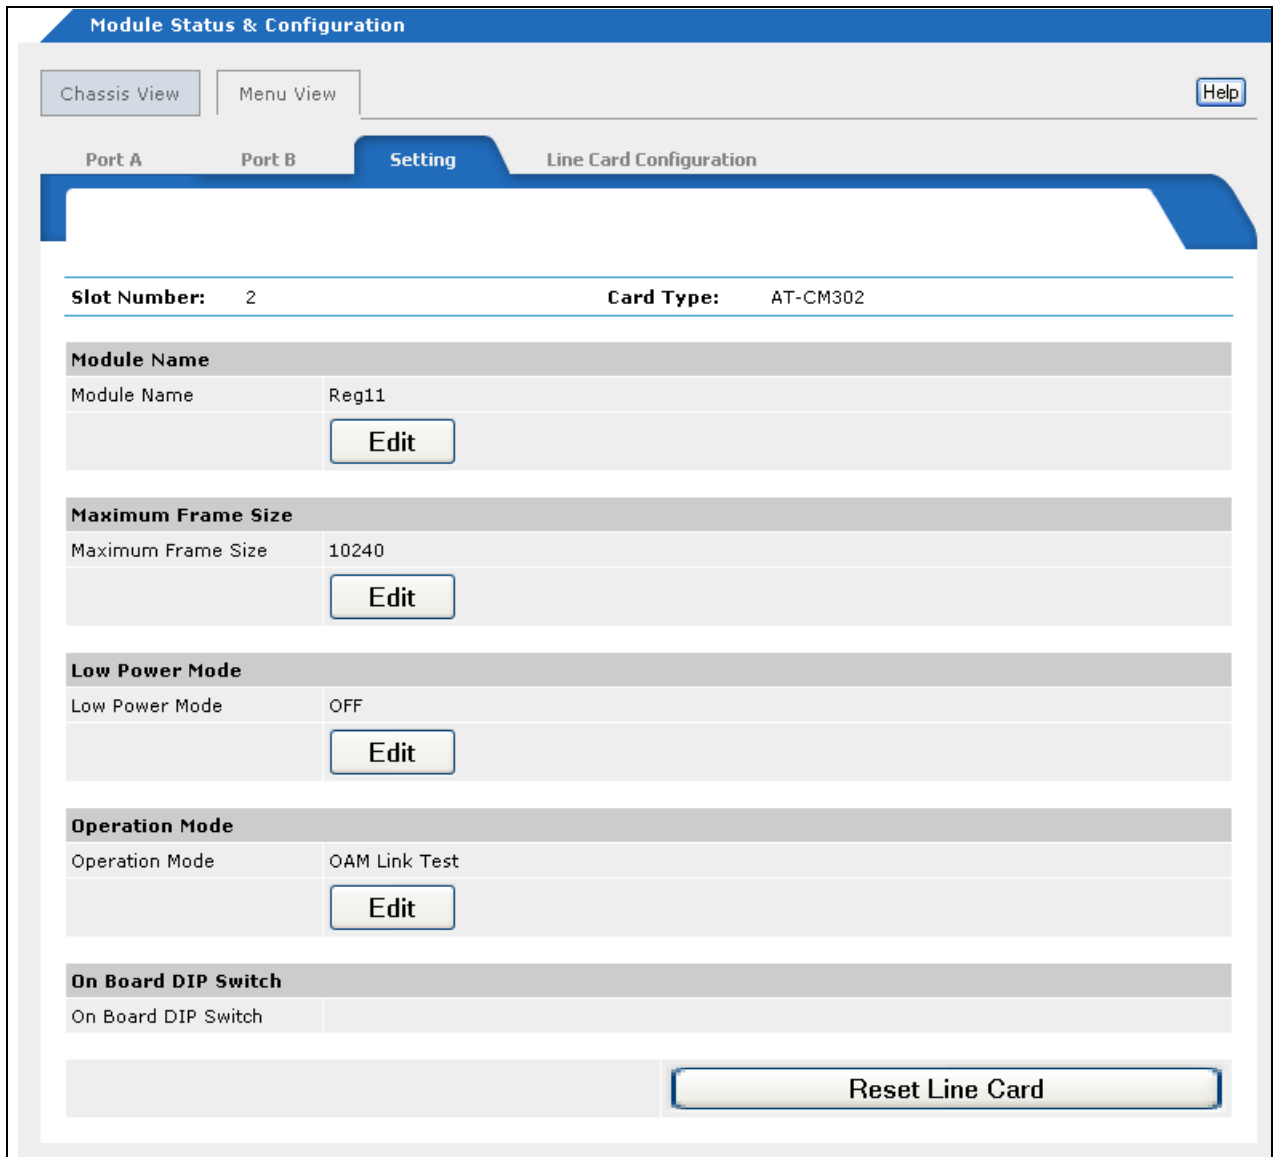

Figure 70. Setting Window
3. Click the **Setting** tab, shown in Figure 70.
3. Click the **Setting** tab, shown in Figure 70 on page 179.